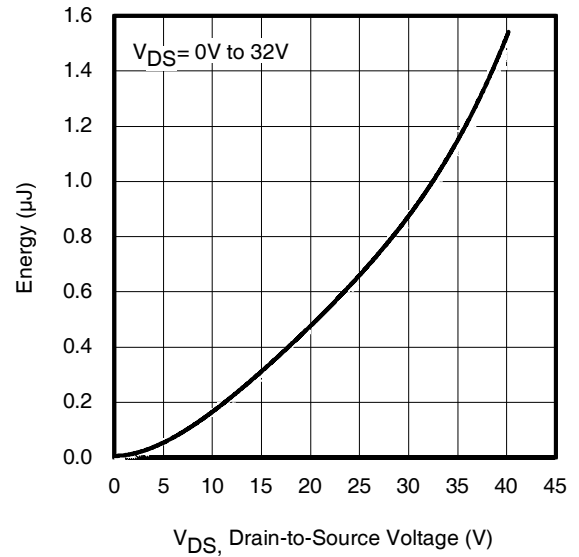

Fig 12. Typical C_{OSS} Stored Energy
| $C_{oss\text{ eff. (ER)}}$ | Effective Output Capacitance (Energy Related) | — | 1880 | — | | $V_{GS} = 0\text{V}$, $V_{DS} = 0\text{V}$ to 32V ⑦, See Fig. 12 |